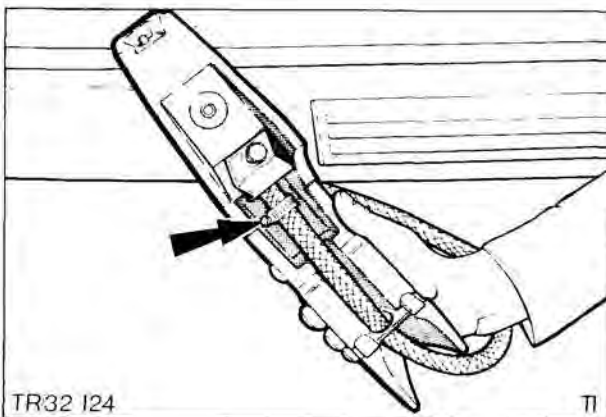

Fig. 24. Hose to nozzle joint
2. Loosen hose clamp securing hose to nozzle override and remove hose from override, Fig. 24.